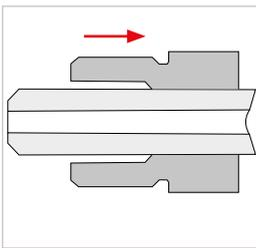

Figure 1
- ▶ Slide the compression nut onto the cleaned tube (*Figure 1*).